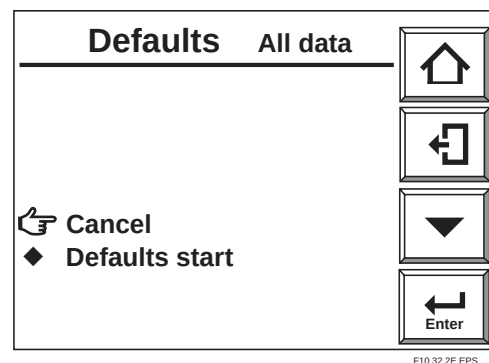

Fig. 10.32.2 "Initialize All Data" Start Display
- 4) When initialization completes then you are returned to a display like Figure 10.32.2.